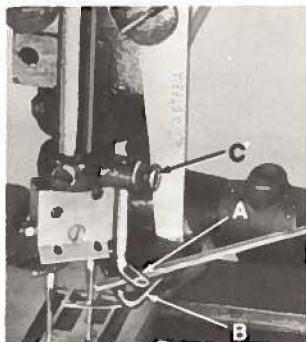

FIGURE 21
Spreader thread eyelet (A, Fig. 21) should be set so that the shank of a Type 147 needle, .080 inch (2.00 mm) barely passes between the under surface of the spreader eyelet and the top of the stationary spreader thread guide (B), when needle bar is in its lowest position. Turn eyelet (A) so its eye is directly over the front end of the slot in stationary guide (B). Screw (C) secures eyelet (A).